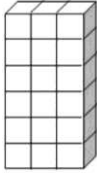

Figure 15-5 Array for question 29.
29. Figure 15-5 shows as an example of a ____ dimensional array. 29._____